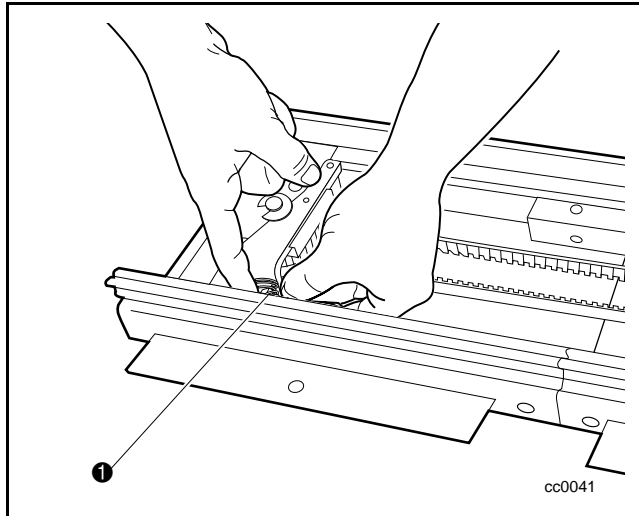

Figure C-22. Snapping the spring over the tension post
6. Slide the spring over the tension post and then snap into place so that it rests squarely against the inside of the PTM track (❶ Figure C-22).